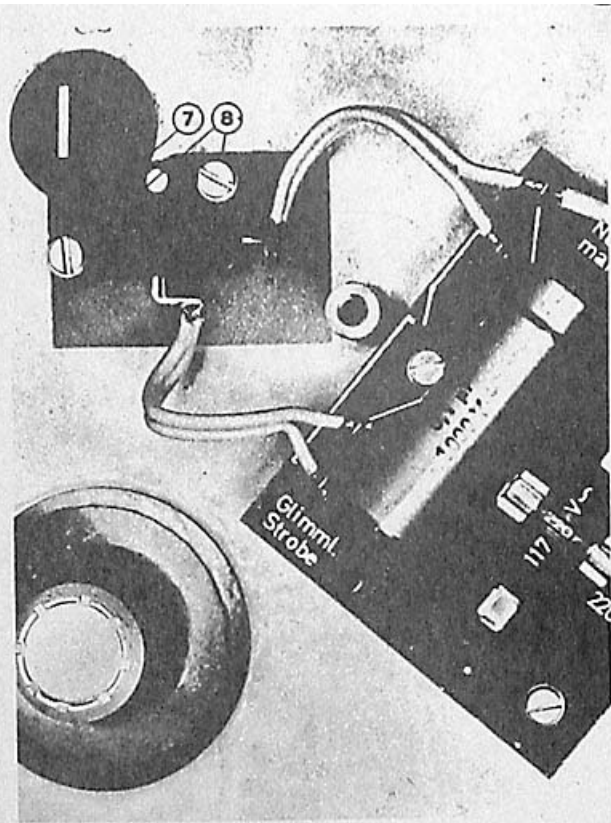

FIG. 5
The microswitch Fig. 5 (7) is attached by means of two 3 mm metrical screws Fig. 5 (8) which are screwed into a threaded plate behind the main chassis. After replacing the main switch it has to be adjusted in such a way that the switch lever positively actuates the switch.